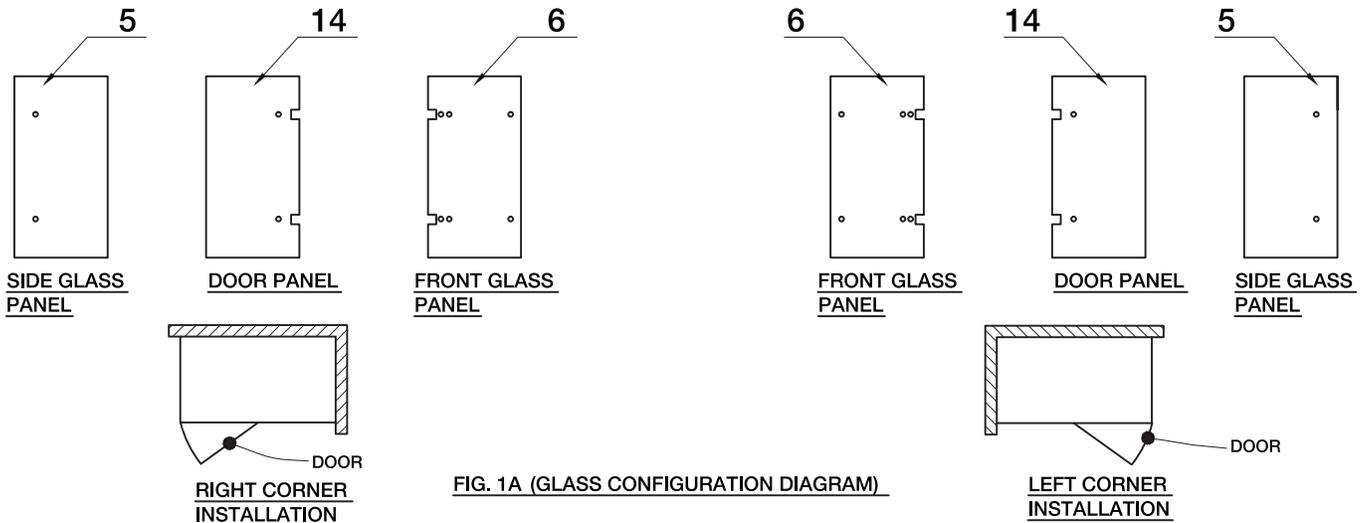

FIG. 1A (GLASS CONFIGURATION DIAGRAM)
1. Arrange glass to the preferred configuration. [SEE FIG.1A on page 4]